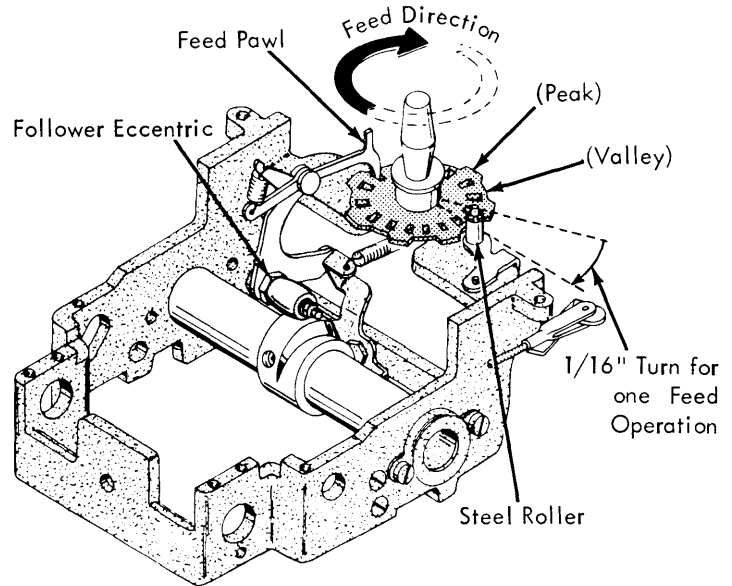

FIGURE 191. Feed Cam Follower Eccentric
2. Feed Cam Follower Eccentric - Adjust the follower eccentric so that the feed pawl will rotate the feed and lift wheel 1/16 of a turn for each ribbon feed operation (Fig. 191).
This adjustment may be checked in the following manner: With the machine at rest manually position the feed and lift wheel so that the steel roller on the lift control lever rests approximately in the center of a valley (high lift lobe) on the feed and lift wheel (Fig. 191). Now, perform a ribbon feed operation by hand-cycling any character through its complete cycle. Make certain that the cycle shaft returns to its latched position. If the follower eccentric is properly adjusted the feed pawl should rotate the feed and lift wheel 1/16 of a turn causing the steel roller on the lift control lever to come to rest in the center of a peak (low lift lobe) on the feed and lift wheel (Fig. 191).